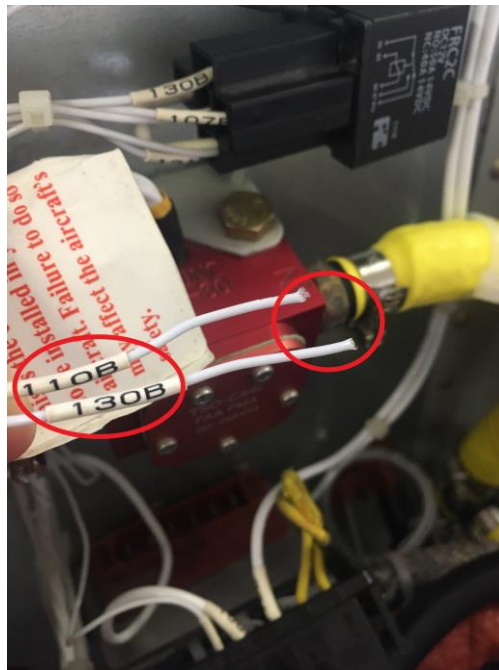

Fig. 25: Wires 110B and 130B
23) Cut the terminals from the 110B and 130B wires (See Fig. 25)